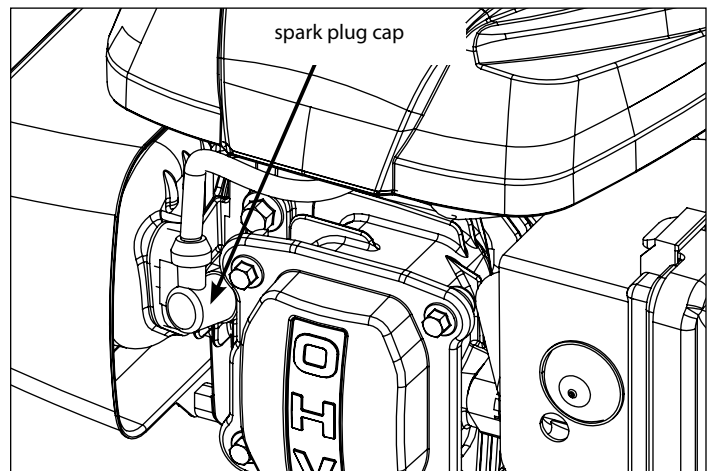

Figure 5: Spark plug location
1. Detach spark plug wire and move away from spark plug. If the engine uses a battery, disconnect at negative terminal. **SEE FIGURE 5.**